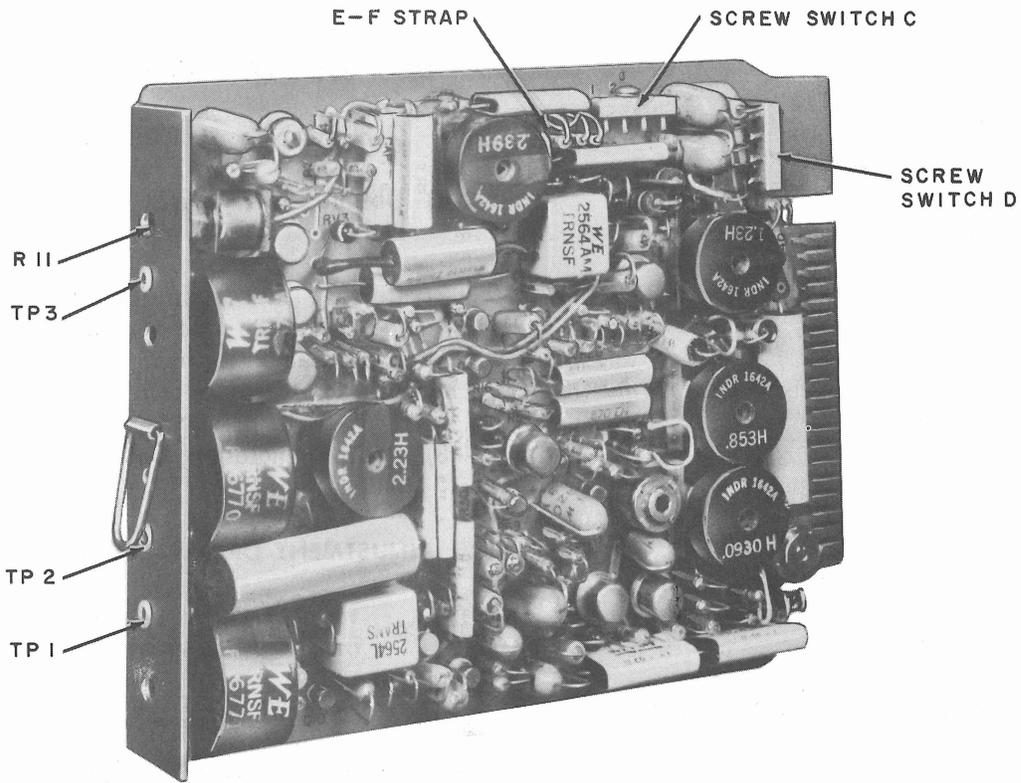

Fig. 10—Data Set 108A-Type, Location of Test Points and Screw Switches
- 8.02** Connect terminals + and - of Portable Station Test Set TTS-28 to TP 1 and TP 2 of the data set (Fig. 10). Set FINCTION switch of TTS-28 to DBM 900Ω TERM O position.